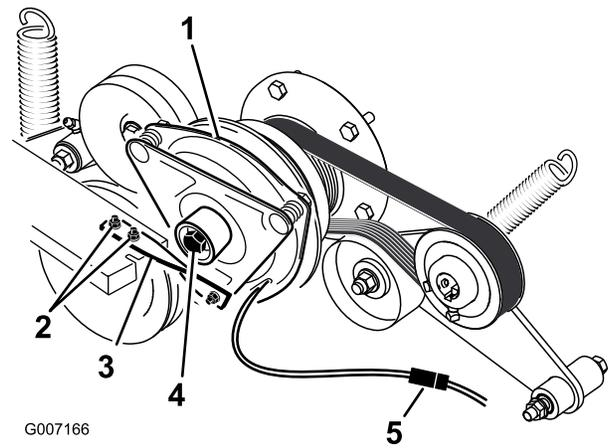

Figure 58
6. Unplug the electric connection for the clutch (Figure 58).
7. Remove the two bolts holding the rubber clutch strap to the mower frame (Figure 58).
8. Remove the center bolt holding the clutch to the engine shaft and remove the clutch and key (Figure 58).
15. While holding the crank shaft at the back of the machine, install the center bolt and torque it to 50 ft-lbs (68 N-m) (Figure 58).
16. Install the rubber clutch strap to the mower frame with the two previously removed bolts and nuts (Figure 58).
18. Plug in the electric connection for the clutch (Figure 58).